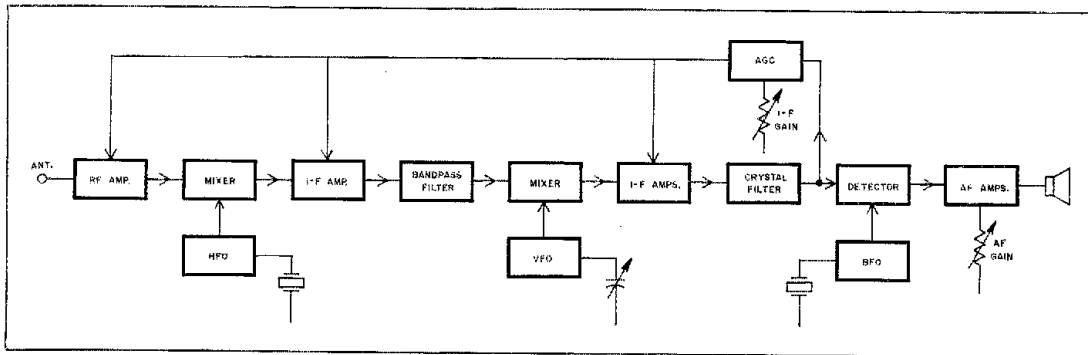

Fig. 1 — Block diagram of a typical amateur receiver.
Fig. 1 is the block diagram of a typical amateur receiver. If the receiver "dies," what do we do? First, see if the symptoms indicate where the problem is located: when the receiver is turned on, we hear the normal hiss from the speaker, but do not hear any signals as we tune across the band (the antenna is connected!) Apply-
□ Basic Amateur Radio for September 1981 *QST*, entitled "Experimenting for the Beginner," dealt with simple cw transmitters and circuits. The "simplest transmitter," depicted schematically in Fig. 1, contained a single 2N2222 bipolar transistor, crystal controlled on 40 meters. Output power at 12 V is on the order of 50 mW. The article asked for details on on-the-air results from those who built the one-stage transmitter.
in December 1981. It was a study in tenacity and success. Mike built the 2N2222 rig of Fig. 1 in the *QST* article, plugged in a junkbox crystal for 7067 kHz, then connected a 9-volt battery to the transmitter. No doubt the power output was more like 25 to 30 mW with a 9-V power supply! To complicate matters even more, Mike used an indoor 40-meter antenna. His rig is shown in the accompanying photograph (nice work!).